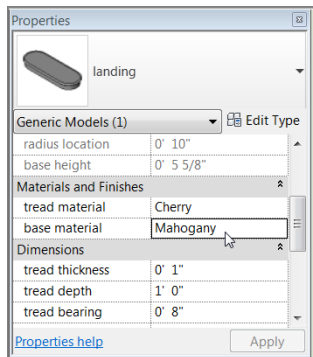

FIGURE 10.71: Changing the landing material to match the theme of the staircase
9. Change Base Material to Mahogany, and click OK (see Figure 10.71).